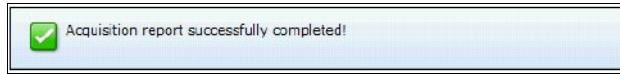

Figure 6-18 Successful completion of acquisition message
9. A message displays showing that UXSPI acquired the possible updates for the machine, as shown in Figure 6-18. Click **Next**.